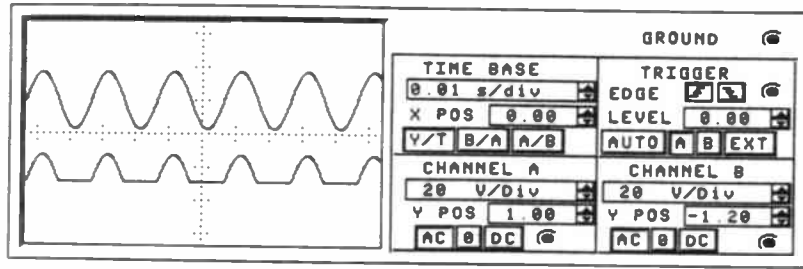

Fig. 3.17 Initial oscilloscope settings for Assignment 3.3
2. Display the input and output waveforms on the screen of the oscilloscope (see Fig. 3.17 for recommended initial set-